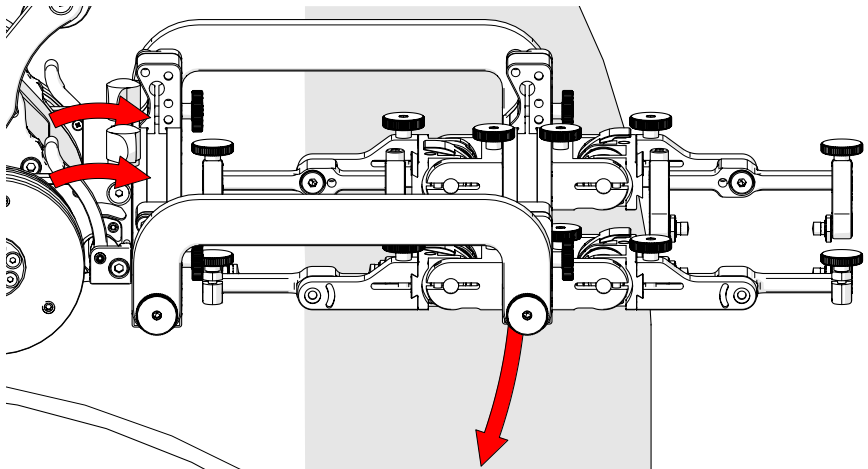
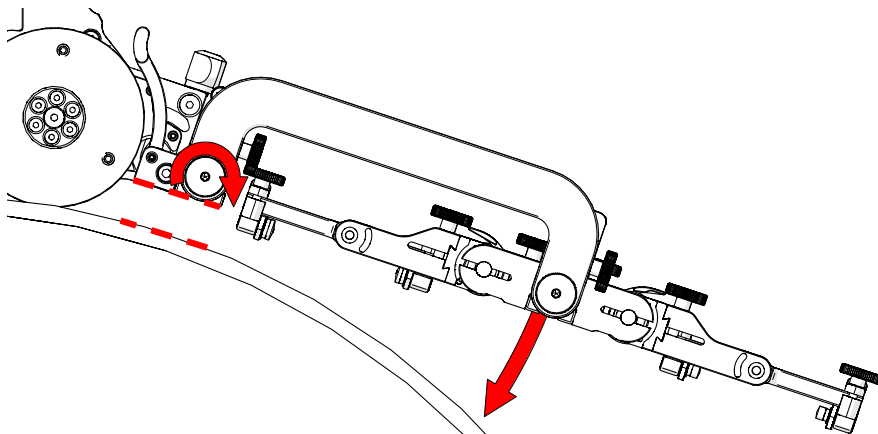

Fig. 176 - Align swivel mount with scan surface
Fig. 177 - Set rear rotational adjustment knob
4. Release the two swivel mount levers (Fig. 176) to position the swivel mount parallel to the scan surface (Fig. 177). Lock the crawler swivel mount levers when aligned with the scan surface.
5. Loosen the rear rotational adjustment knob to lower the front frame bar of the low profile frame towards the inspection surface (*Fig. 177*).